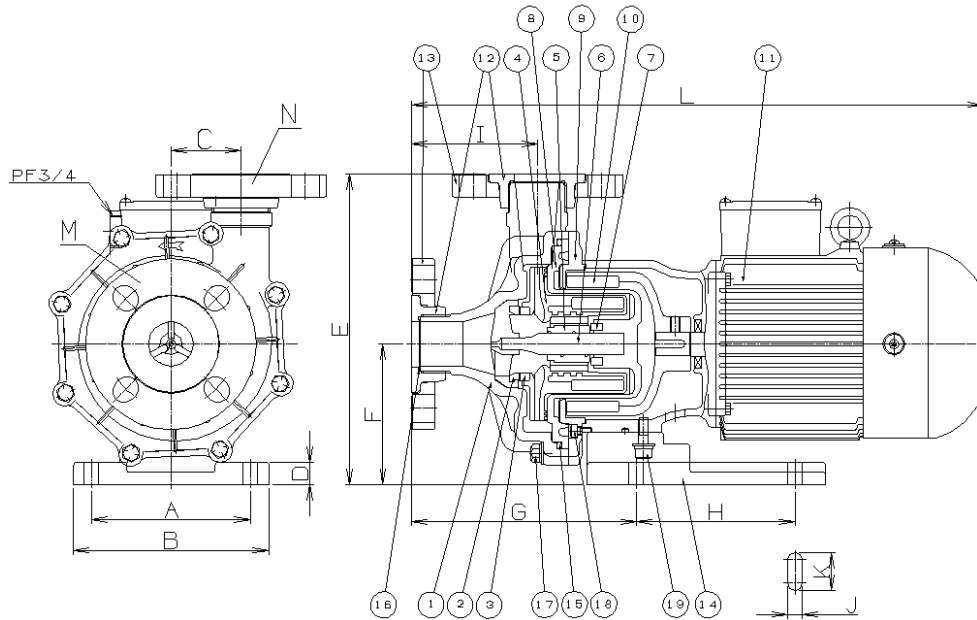

Fig. 3
1. See Fig. 3, page 8 for finding the item No.
3. Separate bracket is used for non-exclusive motor as an individual part. For 5HP motor, a motor mounting plate (FC) is added between the separate bracket and motor.